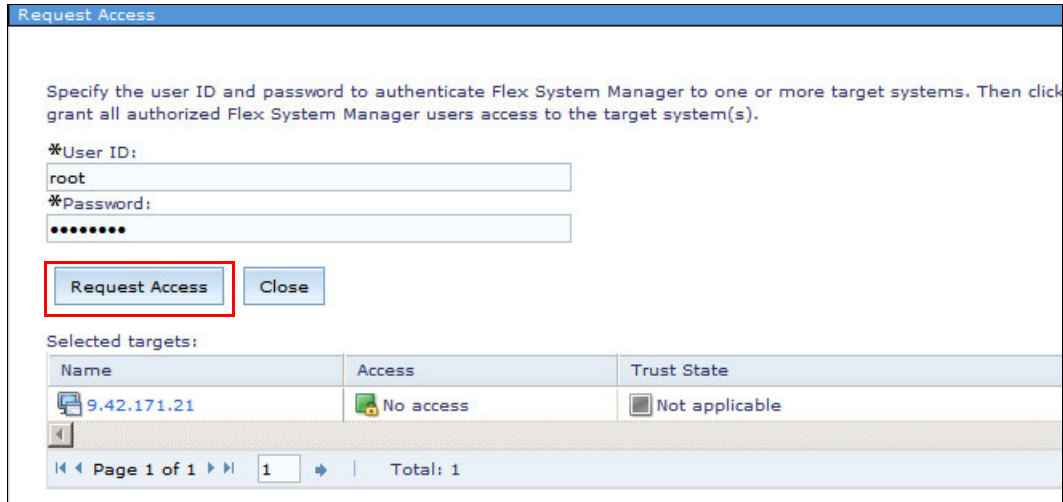

Figure 6-70 Granting access to the object
2. In the Request Access window, enter operating system credentials and click **Request Access**, as shown in Figure 6-70.